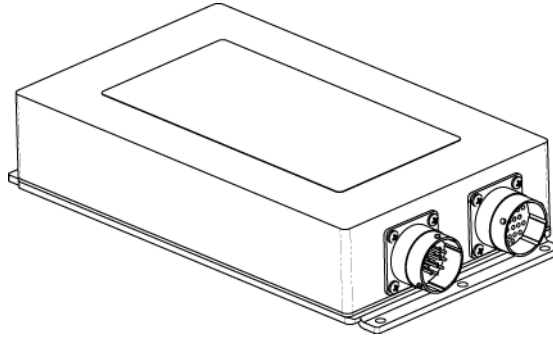

Figure 2 ELT/NAV Interface -B Isometric View
- 1) The ELT/NAV Interface -B components are housed in a 0.125 inch (3.2 mm) thick aluminum chassis; finished with a chromate conversion primer and a safety orange, high solids epoxy or polyurethane finish. See Figure 2 ELT/NAV Interface -B Isometric View.